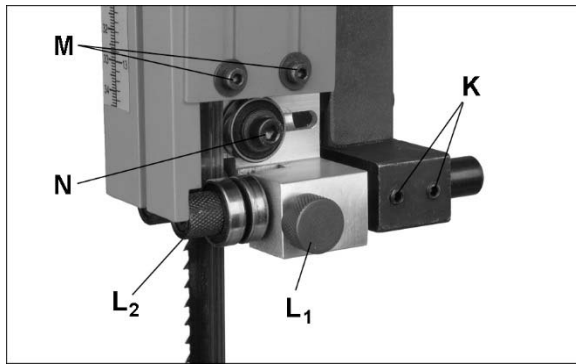
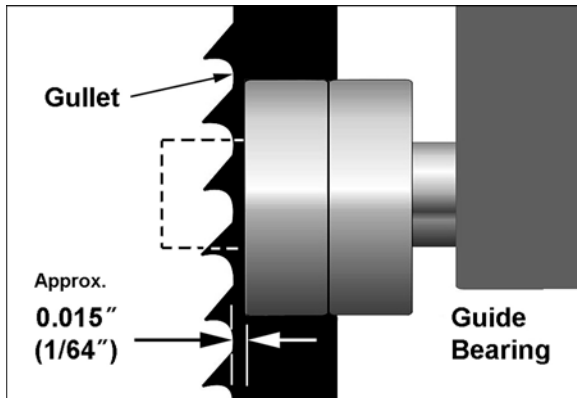

Figure 7-8: blade guide adjustment
Figure 7-9: guide bearing position
Refer to Figures 7-8 and 7-9.
4. Loosen two set screws (K, Figure 7-8) with 3mm hex wrench, and slide entire guide bracket until front of guide bearings are about 0.015" (1/64") behind blade gullet (curved area at base of tooth). See Figure 7-9.
5. Tighten set screws (K, Figure 7-8).
Refer to Figure 7-8.
2. Loosen screws (M, Figure 7-8) with 3mm hex wrench and raise guard plate to expose thrust bearing.
3. Loosen screw (N) with 5mm hex wrench, and slide thrust bearing until it almost touches back of blade. (This blade-to-bearing gap can be set in similar fashion as the side guides, with business card or dollar bill.)
Movement summary: Loosen screws on guide bracket (P) to adjust bearing assembly (refer to Figure 7-9). Loosen screws (R) and rotate eccentric guide bearings in relation to blade. The thrust bearing is moved forward and backward by loosening set screw (S) with 4mm hex wrench and rotating knob (T). Retighten set screw (S) to secure position.